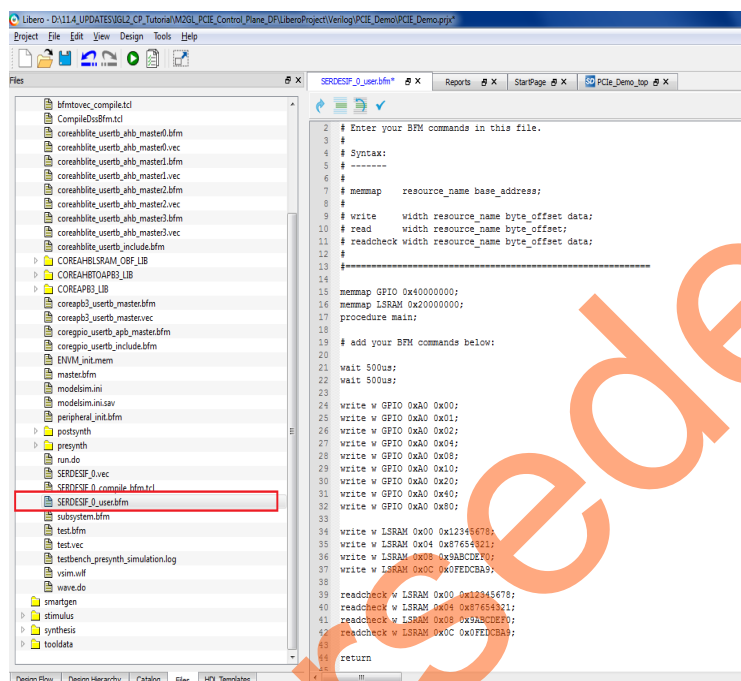

Figure 37 • Modified SERDES User BFM
3. The modified BFM file appears similar to the file shown in Figure 37.